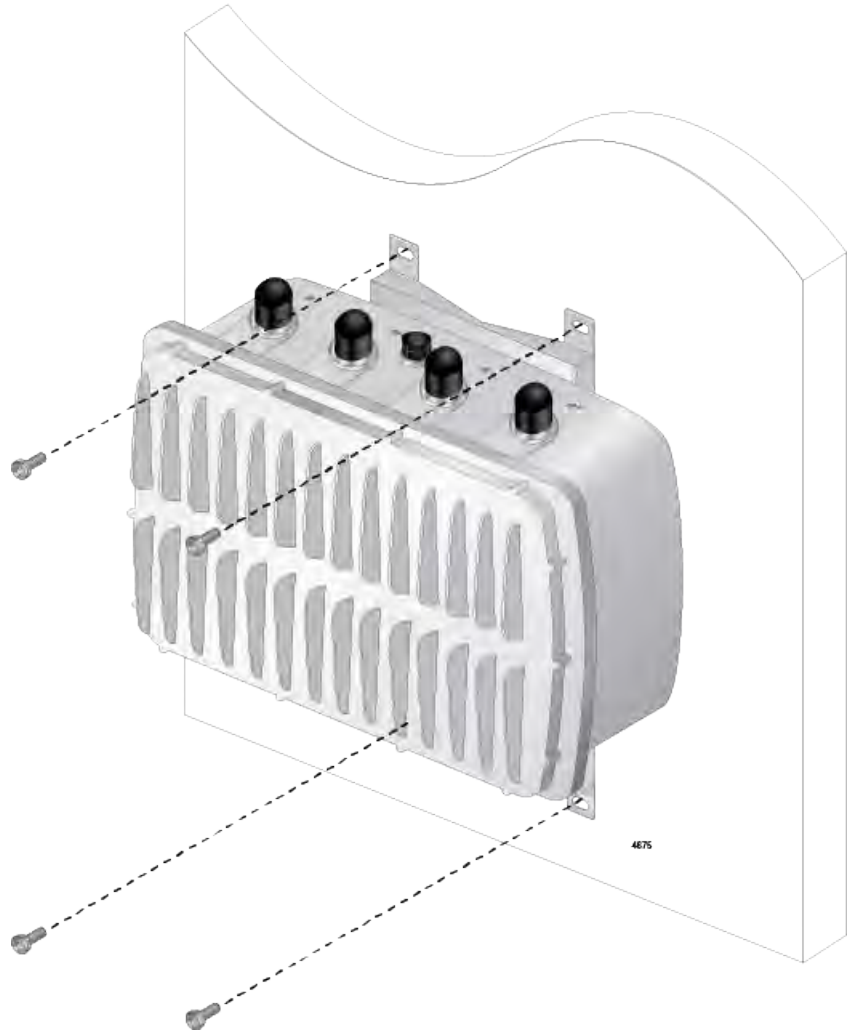

Figure 29. Attaching the Access Point to the Wall
7. Attach the access point to the wall with the provided screws, using a Phillips-head screwdriver. See Figure 29 on page 57.